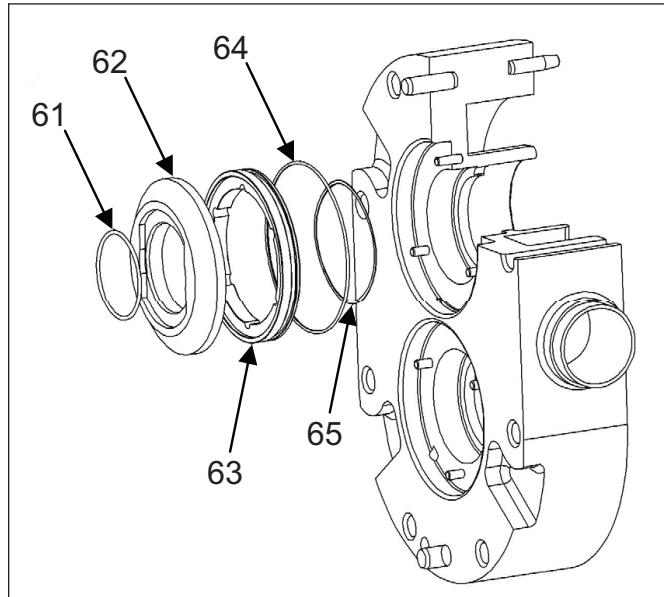

Figure 35.
1. Remove the Inner stationary seals from the pump body (*Figure 35*, item 61).